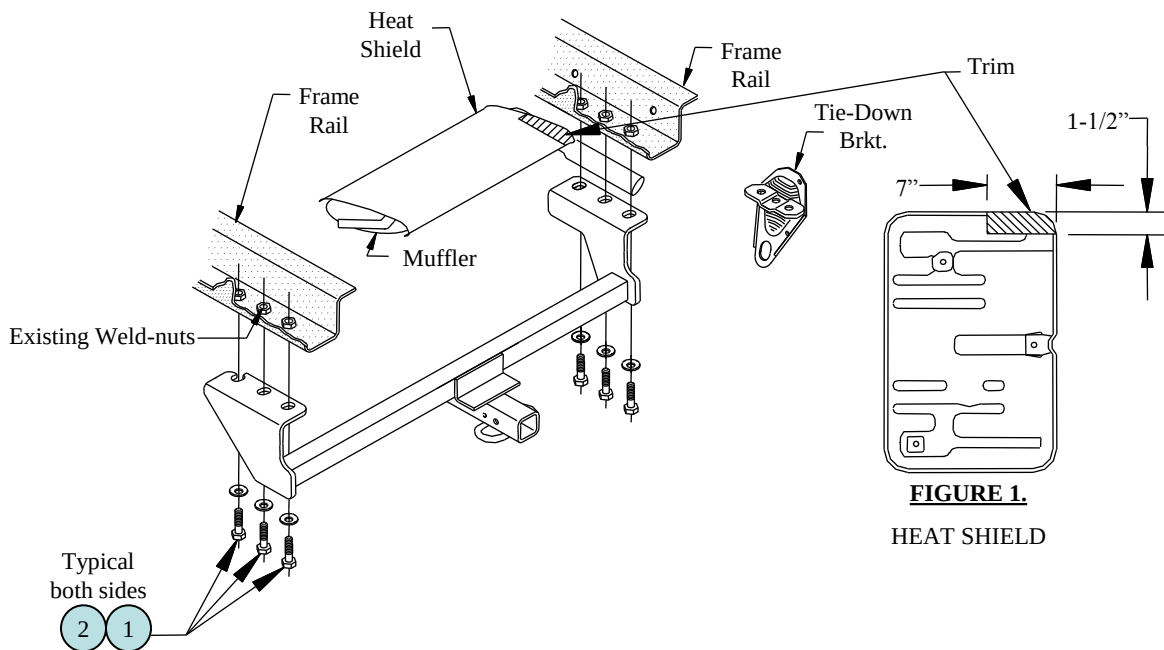

FIGURE 1.
2. Remove the (3) fasteners holding the heat shield from the vehicle (muffler does not need to be removed).
3. Trim the heat shield (figure 1) as shown. After trimming reattach heat shield.